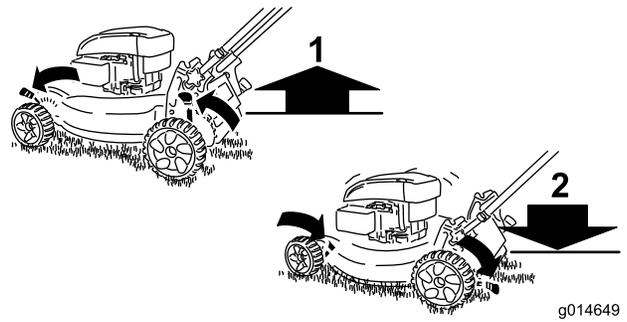

Figure 8
**Note:** To raise the mower, move all the cutting height levers forward; to lower the mower, move the all the cutting height levers rearward (Figure 8).